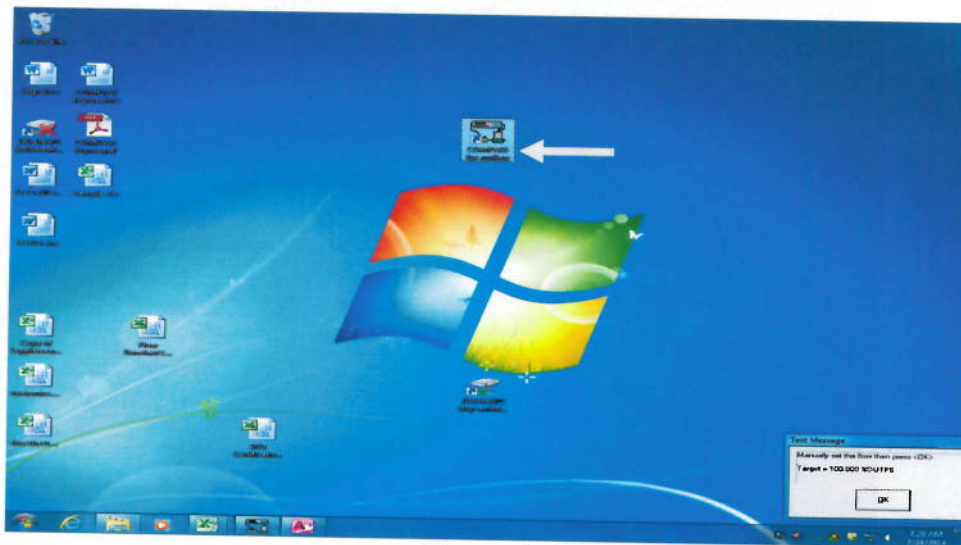

Figure 1
- 12.1.4 Double click on the "Compass for Molbox" icon on the desktop. See Figure 1.